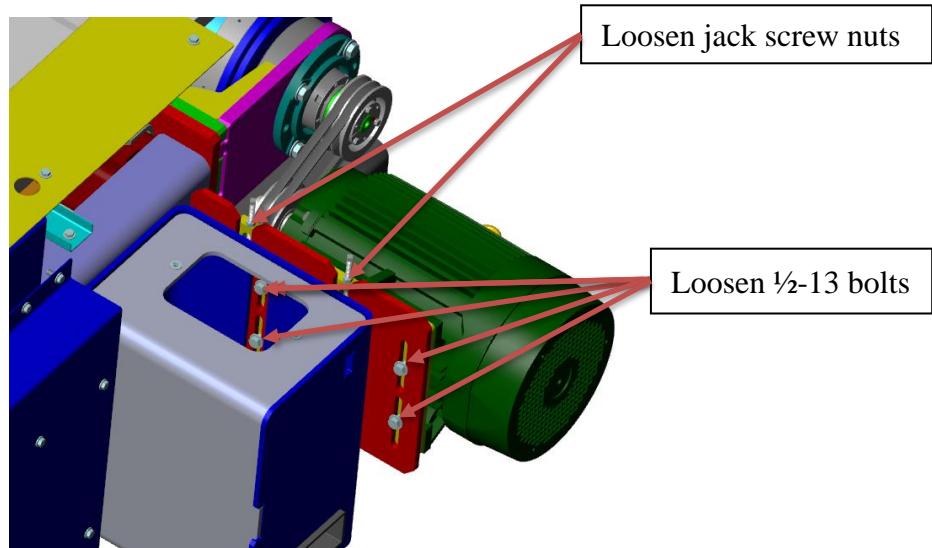

Figure 9
5. Loosen the jack screw nuts and the four ½-13 hex head bolts that secure the motor slide plate to the motor support. See **Figures 9 and 10**.